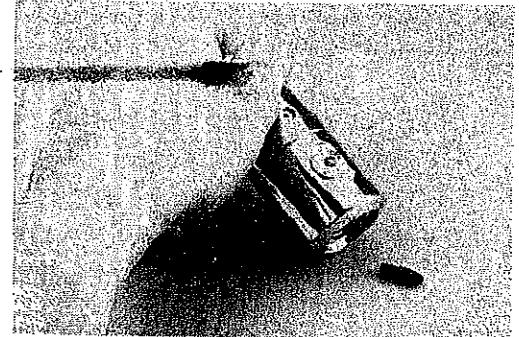

Fig. 3B
7. Grasp the piston and body together to prevent the piston from sliding back out, and turn over to allow the installation bullet to drop out. (See fig. 3B.) Set the body on end, with the piston head facing straight up.